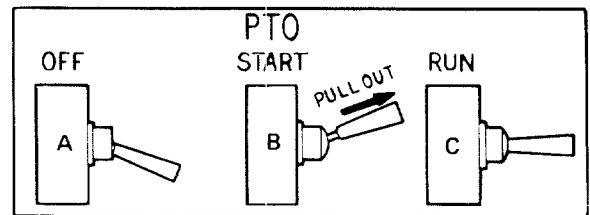

Figure 22
2. Flip the toggle switch to the "RUN" position. (See Figure 22.)
5. PTO switch must be in the "OFF" (A) position when shifting the tractor into reverse or the PTO will shut off automatically. To reengage the PTO, shift unit into neutral. Move PTO switch to "OFF" (A) position. Then pull knob out and lift up to "START" (B) position and release.